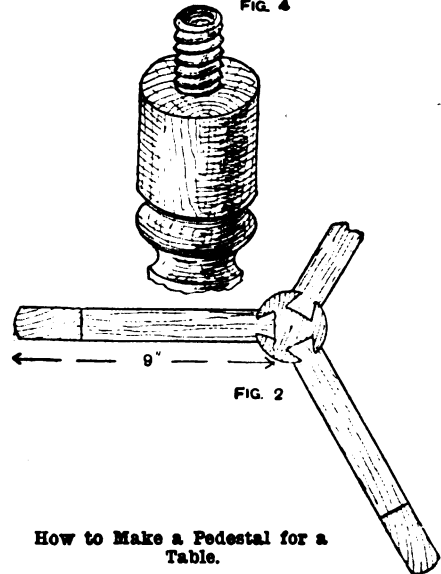

FIG. 2
**Making a Pedestal for a Table.**—The following illustrations give a design for a pedestal for a walnut table top; the table is 2 ft. diameter and  $\frac{1}{2}$  in. thick. Fig. 1 shows the elevation and Fig. 2 the greater part of the plan, looking up. The column should be turned out of stuff about 3 in. square. The upper part of the column can be finished with a screw, as shown at Fig. 4, for fastening on the block. The legs should be